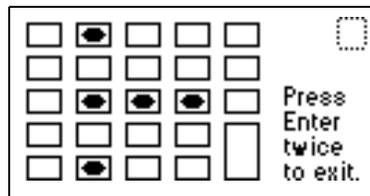

Figure 5-8 Keypad Diagnostic
1. From the Lamp, display & keypad choice list, press **2**, **Test keypad** to run the keypad test. A bitmap representation of the keypad is displayed (Figure 5-8).